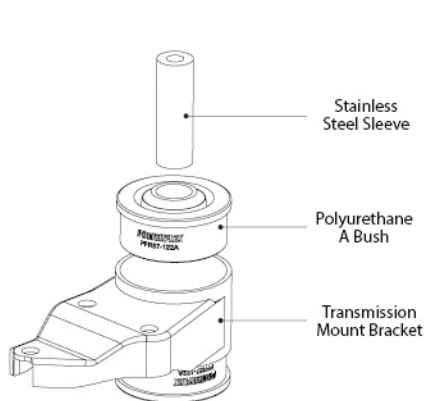

Figure 1: Exploded Assembly
2. Fit polyurethane A bushes into the bore of the mount. As shown in *Figure 1*.